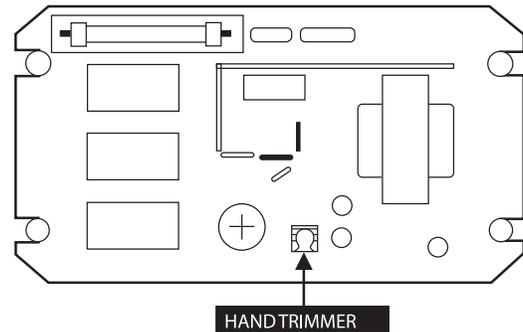

Figure 32: Hand Trimmer Location on AVR.
- a. If there is some voltage, but it does not build up to rated voltage, voltage adjustment can be made using the “hand trimmer” in the AVR (Figure 32).